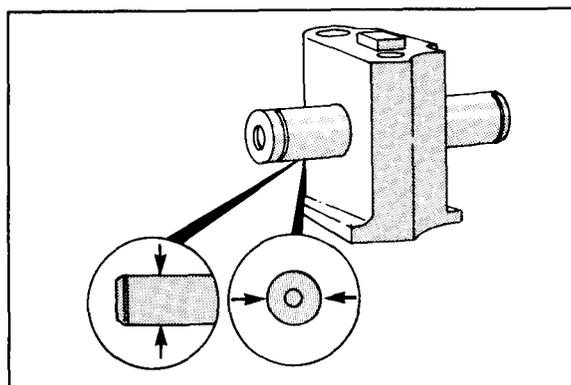

Figure 6-7
5. Using a micrometer, measure diameter of shaft. Diameter of shaft should measure 0.7456 in. (18.938 mm) minimum and 0.7470 in. (18.974 mm) maximum. Replace rocker shaft support assembly when shaft measurement is not within minimum/maximum tolerance (Figure 6-7).